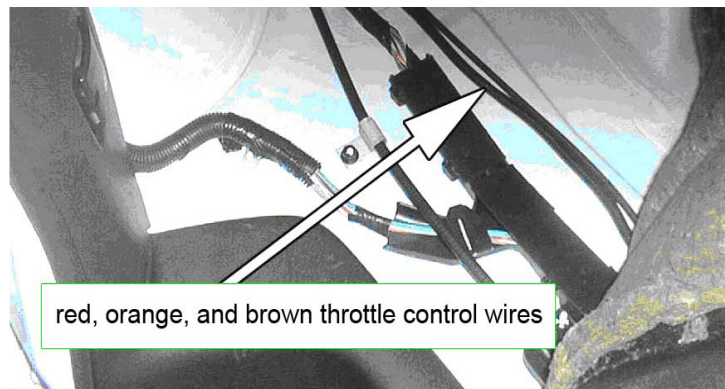

Figure 52. Route Throttle Cable Controller
3. From the fuse box, route the 3 Speed Throttle Cable under the driver's side floor mat, along the step, up to the A-pillar by the emergency brake release, and along the wall to the OBD II plug in. Tie wrap or tape to the transmission shift cable (refer to Figure 52)